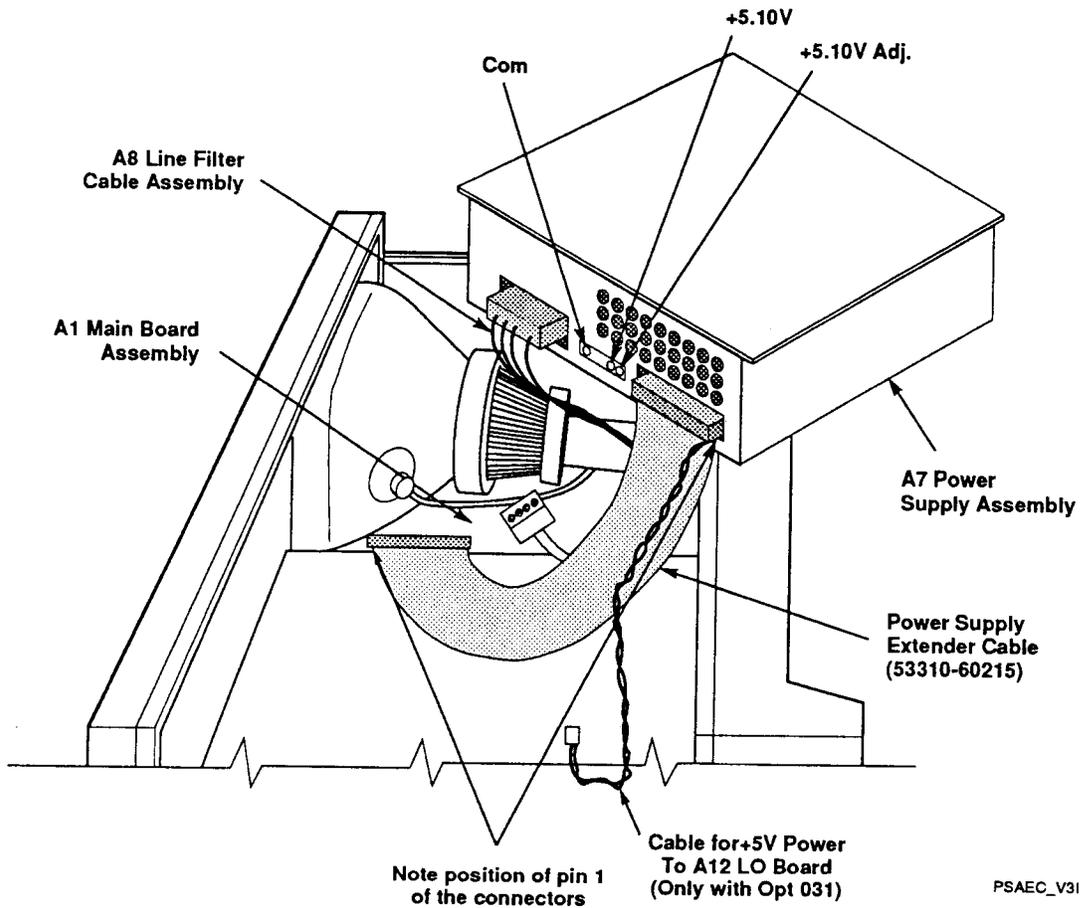

Figure 3-2. A7 Power Supply Assembly and Extender Cable Setup
- 7 \*For easier access to the power supply adjustment, use the Power Supply Extender Cable (53310-60215) in the Service Accessories Kit (53310-67001). To use the extender cable perform the following (refer to *Figure 3-2* as needed):